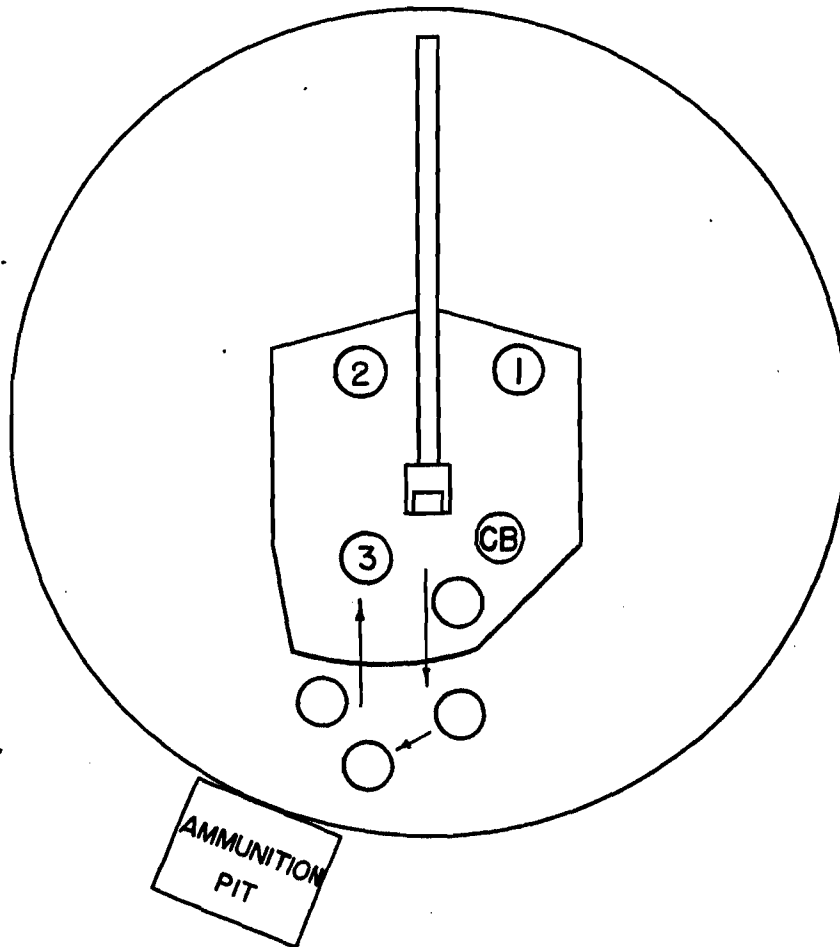

FIGURE 11.—Positions for dummy drill.
10. DUMMY DRILL.—Dummy drill is conducted under conditions approximating those of the standard drill. The only duties changed are those of the chief of breech and the ammunition relayers. The chief of breech must operate the breech manually. In this case, he opens the breech by moving the breech-operating handle back and down until the extractors lock the breech open. If there is a dummy round in the chamber, he must be sure before opening the breech that an ammunition relayer is ready to catch the extracted round. After the breech is open, the operating handle is returned immediately and locked in the upward position. The ammunition relayer who catches the extracted dummy round stands at the right rear of the breech inside the shielded enclosure. He catches the extracted round with the left hand over the base of the cartridge and the right hand near the projectile. The round is then passed around through the waiting ammunition relayers, positioned as shown in figure 11, and returned to No. 3. The position of the ammunition relayers should be alternated so that all of them get practice serving ammunition to No. 3.